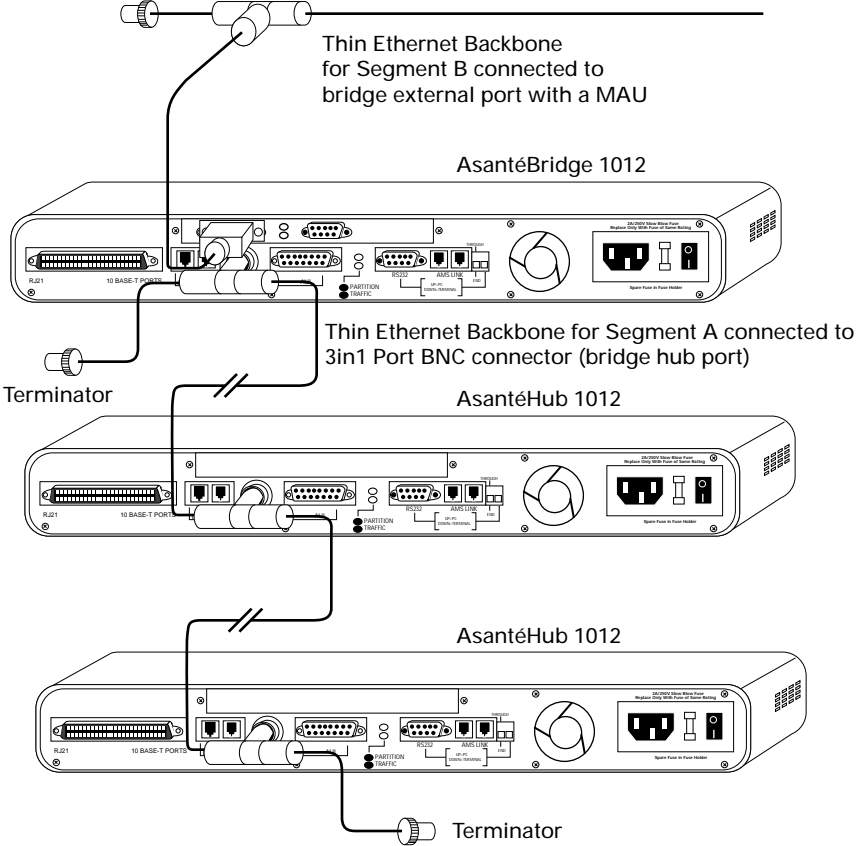

Figure 2-4 Interconnecting Hubs on Thin Ethernet Backbone
- 1** Connect the AsantéBridge BNC connector to a T-connector on a properly terminated thin cable backbone, as shown in the Figure 2-4.